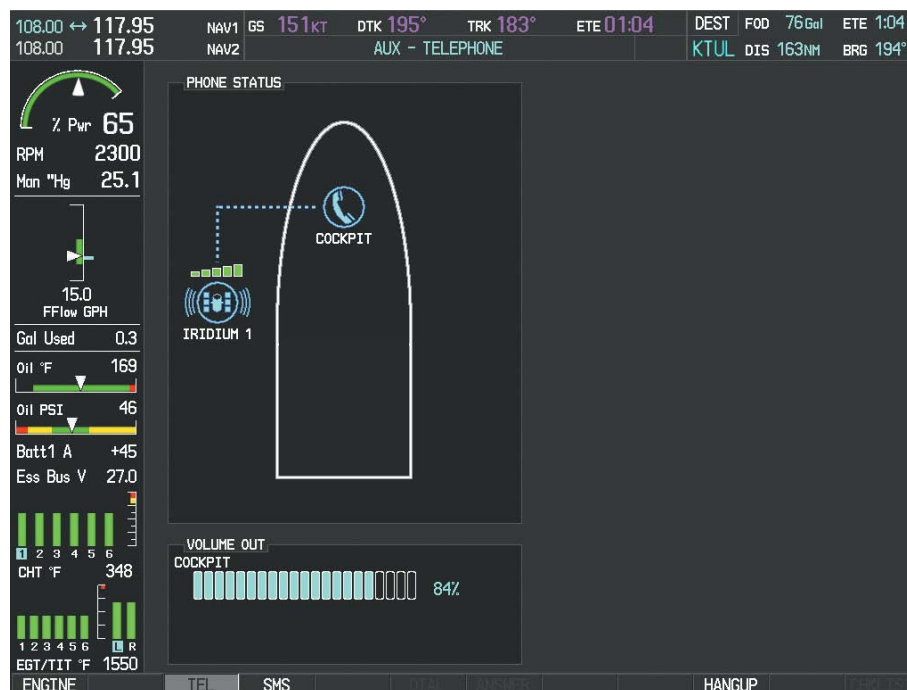

Figure 8-89 System is Making the Connection
- 5) Press the **ENT** Key. The system will begin calling the number, as in Figure 8-89.